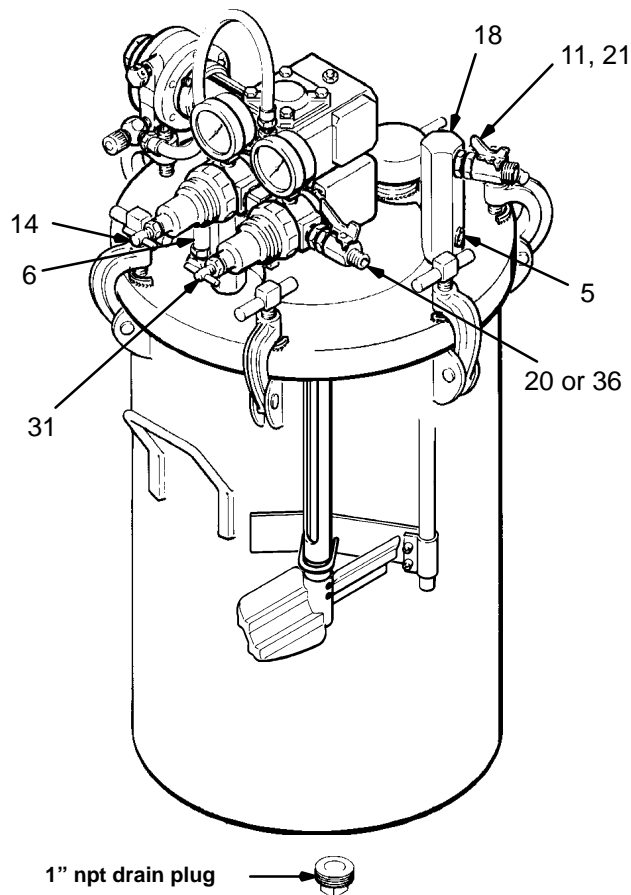

Fig. 6
Remove the plug (5) from the outlet manifold (18) and install an additional nipple (11) and ball valve (21) in the manifold. Refer to Fig. 6. With dual regulator models, also remove the 1/4 npt ball valve (36) and screw a 1/2 x 1/4 npt(mbe) nipple into the bushing (30) and then a 1/4 npt(f) tee. Install a 1/4 npt ball valve (36) on both outlets of the tee.
There is a 1 in. npt drain port (see Fig. 6) in the bottom of the tank that may be fitted with an elbow, nipple, fluid regulator, hose and spray gun for use when top outlet feed is not desirable or possible. Mount the tank on a dolly when using this port. See **Accessories**, page 14, for a dolly.
1. Close the air regulators (14 and 31 if used) by turning the knob(s) *counterclockwise* and turn on the air supply. See Fig. 6.
3. Open the tank air inlet valve (20 or 36) and the fluid outlet ball valve (21) and adjust the air regulator to the approximate pressure desired. See Fig. 6.
Do not switch the positions of the tank air regulator (14) and the atomizing air regulator (31). See Fig. 6. The tank air regulator has a Mylar® diaphragm which resists corrosion by paint and solvents. If the tank air regulator is replaced, be sure it has a Mylar diaphragm.
A safety relief valve (6) will automatically relieve the tank pressure when the air pressure exceeds 100 psi (7 bar). Refer to Fig. 6 or the parts drawings.